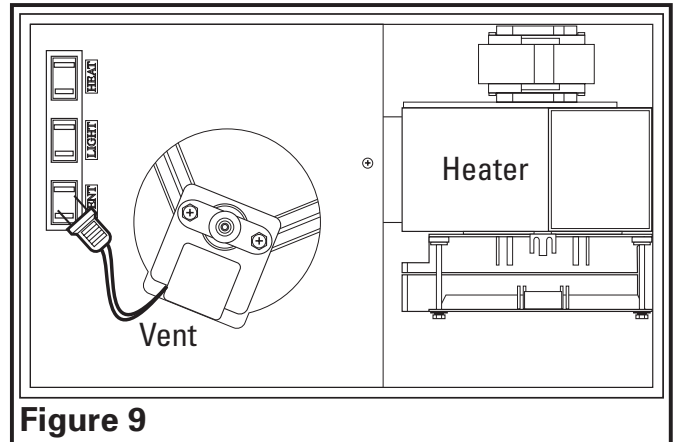

Figure 9
2. Insert the plug from the heating unit into the receptacle marked "HEAT", and the plug from the fan into the receptacle marked "VENT" (Figure 9).
- Install light reflector into grill by lining up the posts on grill with the holes in light reflector (**Figure 11**). Raise light reflector and grill up to housing and insert plug from light into receptacle marked "LIGHT" (**Figure 9**).